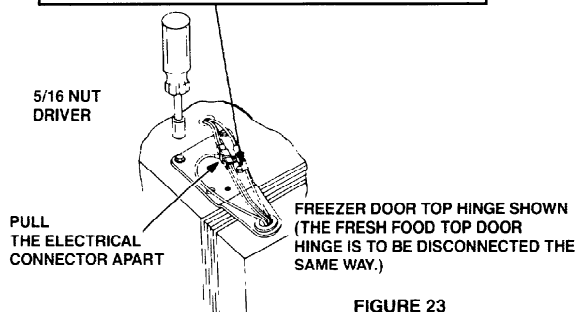

FIGURE 23
See Figure 23.
10. Remove the upper door hinges, (3) three screws per upper hinge. See Figure 23.